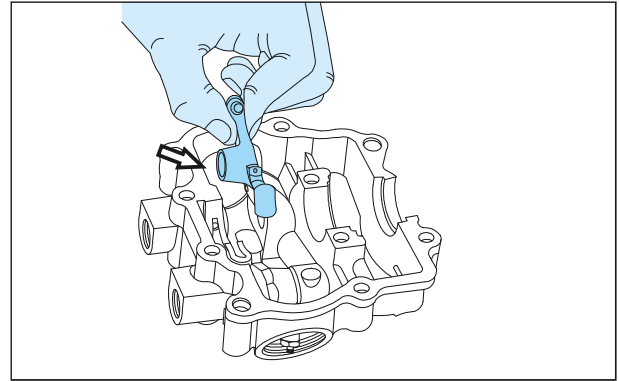

Fig. 3.51
- Take out the rocker arm assembly from the cover cylinder head.(Fig. 3.51)